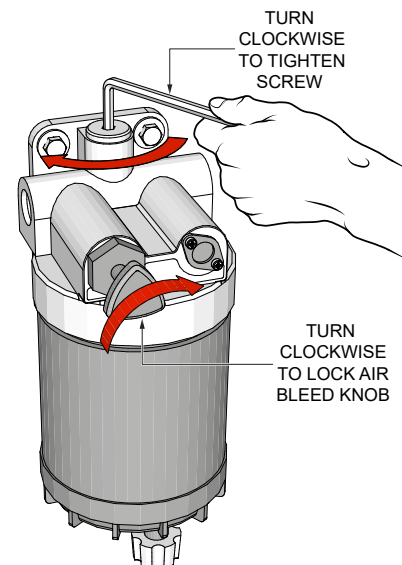

Figure 47. Air Bleed Knob (Locked)
4. Once the fuel system has been purged (removal of air), turn the air bleed knob clockwise (Figure 47), this will lock the knob.